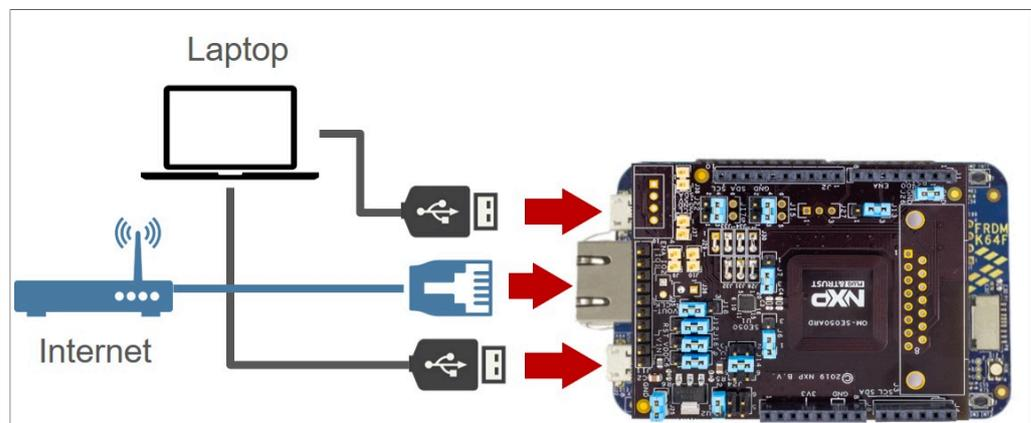

Figure 61. Connect FRDM-K64F board
- Connect FRDM-K64F OpenSDA port, K64F port and Ethernet interface to your laptop as shown in Figure 61: